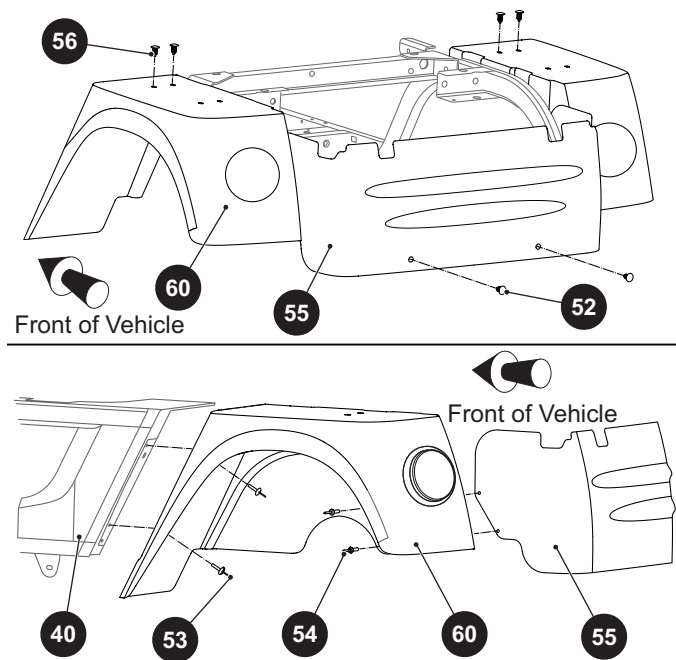

Figure 11 Rear Body Components
2. Drill out the rivets (53) securing the seat wrap sides to (40) the rear fenders (60) (Ref. Figure 11).
3. Drill out the rivets (37) securing the seat wrap sides (40) to the frame.
4. Remove the screws (38) securing the seat wrap front to the sides.
5. Remove the two screws (39) securing each seat wrap side (40) to the frame.